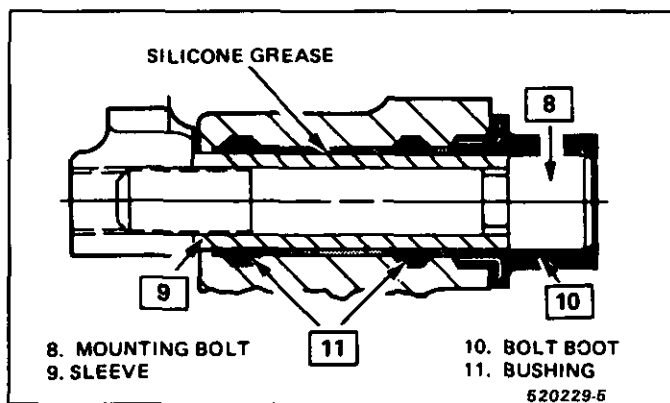

Fig. 5 Lubricating Caliper Cavity
- Mounting bolts (8) and sleeves (9) for corrosion as shown in Figure 5.
Figures 5 thru 9
- New bushings (11) in grooves in mounting bolt holes as shown in Figure 5.
- New bolt boot (10) in mounting bolt holes.
- New sleeves (9) in mounting bolt holes.